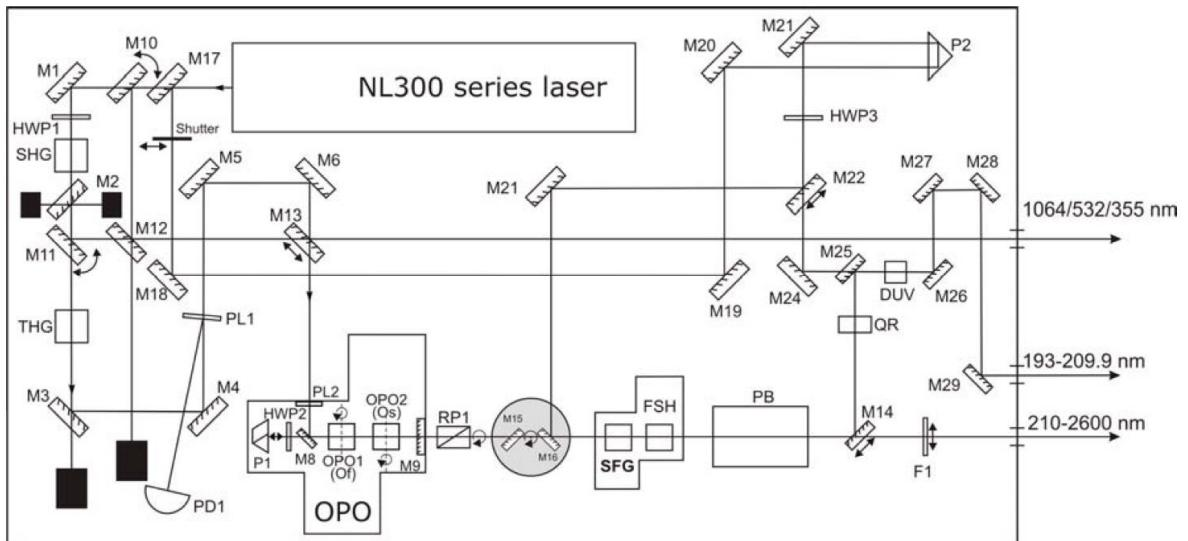

Figure 29 Standard optical layout of NT342 system. Full version is shown; 1H/2H, SH-SFG and DUV options
Please note, that actual numbering in some systems may differ. The functional purpose and placement of optical elements, however, should still correspond to the Figure 29.
3. In an ideal case, the reflection from M9 goes exactly back to the pinhole of the target and cannot be seen. Please check the UV at the beam dumps near M2 (refer to Figure 29).